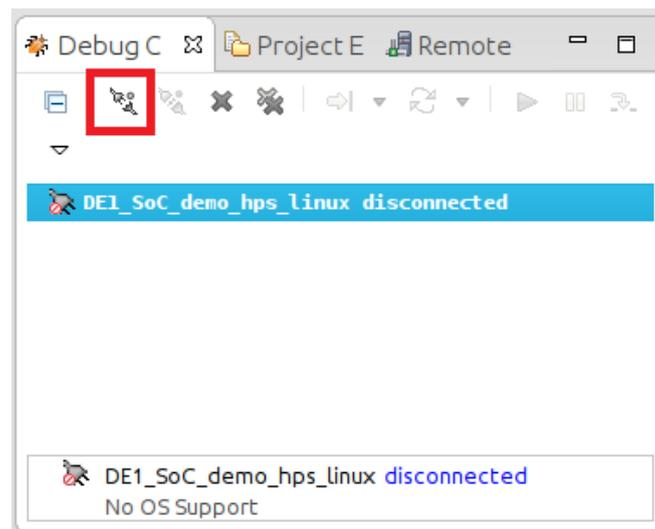

Figure 13-28. Debug Control View
88. In the “Debug Control” view, click on the “DE1\_SoC\_demo\_hps\_linux” entry, then click on the “Connect to Target” button, as shown on Figure 13-28. The debugger will start an SSH connection to the linux distribution running on the DE1-SoC and will automatically transfer our binary file and wait at our application’s “main()” function. If you are prompted to log in, then log in with the **ROOT** user and password.